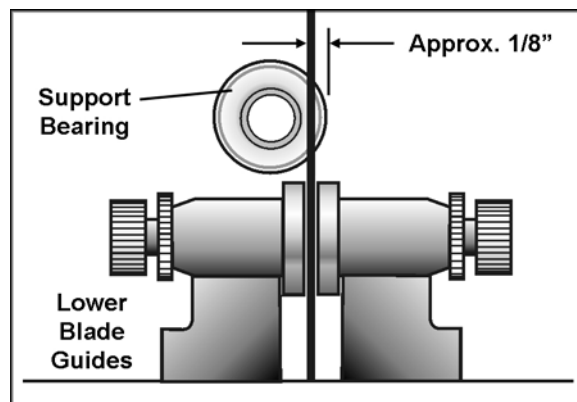

Figure 21
13. The bearing holder on the shaft is eccentric. Rotate the support bearing until the back edge of the blade overlaps the front face of the support bearing by approximately $1/8$ ". See Figure 21.